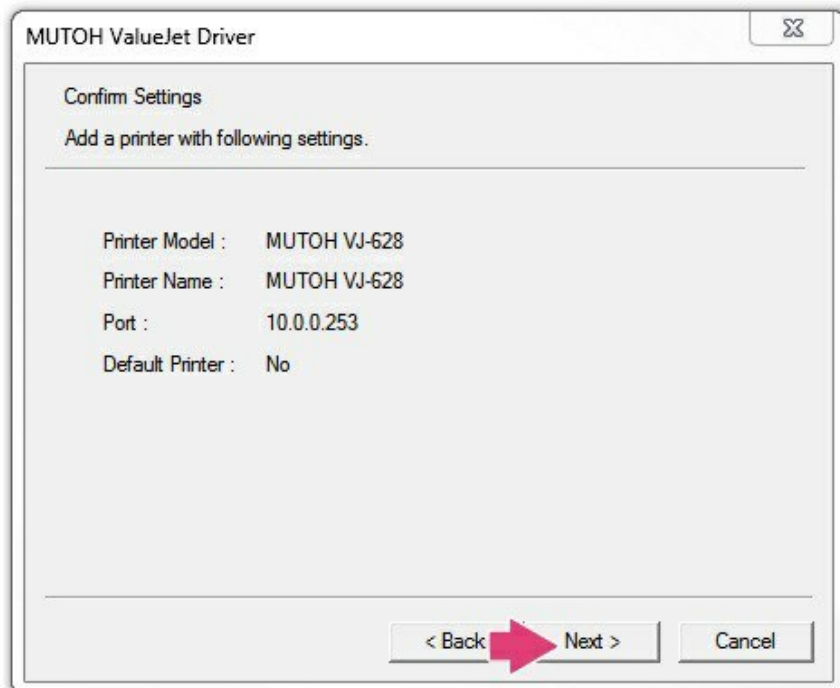

Figure 34
21. Select **Next** to confirm the settings you have chosen. See Figure 34.